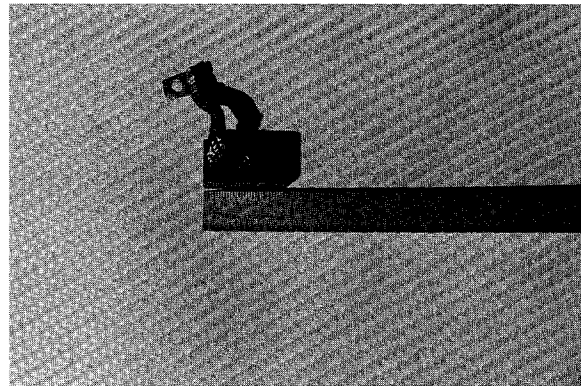

Figure 5-29
2. Check brush length (**Figure 5-29**). If any brush is worn to less than $\frac{5}{8}$ " when measured at its shortest point, new brushes are needed. Replace brushes in sets of four only.